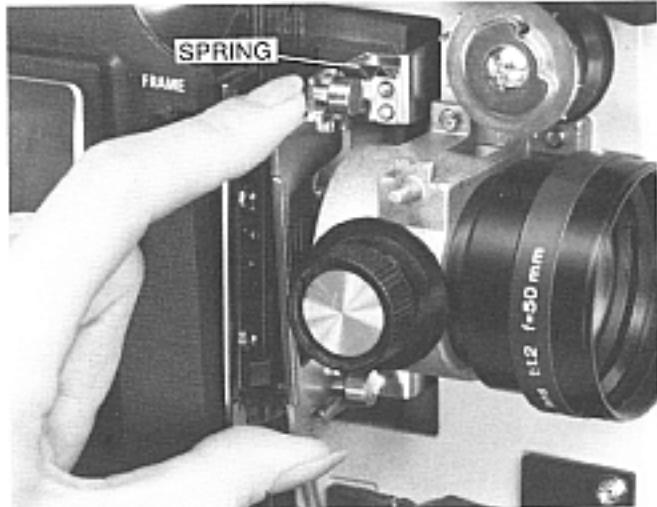

Figure 19
4. Hold the film gate pressure pad with your left hand, as shown in Figure 19, and pull the pressure pad out. When the projector is new and the spring is stiff, it may be necessary to pull firmly.